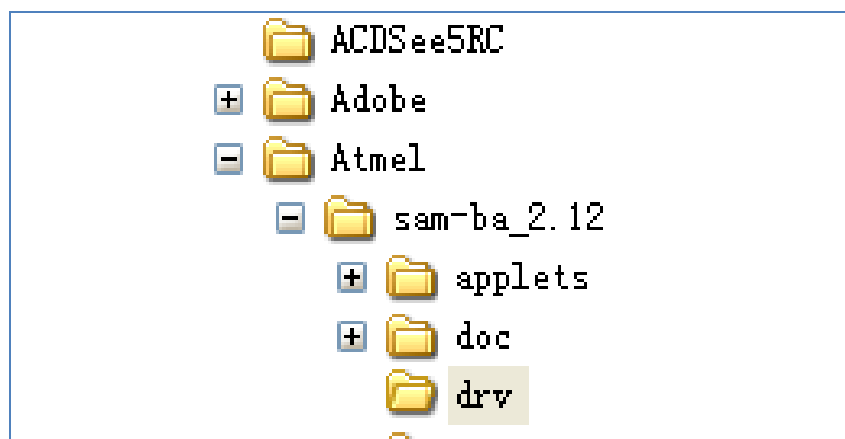

Figure 4-2
(1) Connect Board to PC (**Please follow steps sequentially**), Specific steps are as follows:
- ① Switch development board to 5 v (power off-position )
- ② Connect to PC and board through mini-USB
- ③ Disconnect JP1, JP2 and hold CS\_BOOT button, At the same time switch development board to USB\_5V. If first time the PC opportunities prompt to install board driver, Select SAM-BA installation directory under the relevant position can be installed as shown in figure 4-2: